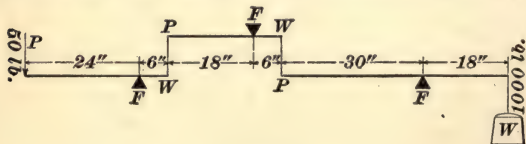

FIG. 8.
Fig. 8 shows a compound lever. It will be seen that when a force is applied to the first lever at P it will be communicated to the second lever at P , from this to the third lever at P , and thus raise the weight W .
EXAMPLE.—If, in Fig. 8, $PF = 24$ inches, 18 inches, and 30 inches, respectively, and $WF = 6$ inches, 6 inches, and 18 inches, respectively, how great a force at P will it require to raise 1,000 pounds at W ? What is the ratio between W and P ?
2. If, in Fig. 8, $P F = 10$ inches, 12 inches, 14 inches, and 16 inches, respectively, and $W F = 2$ inches, 3 inches, 4 inches, and 5 inches, respectively, (a) how great a weight can a force of 20 pounds raise? (b) What is the ratio between W and P ? (c) If P moves 4 inches, how far will W move?